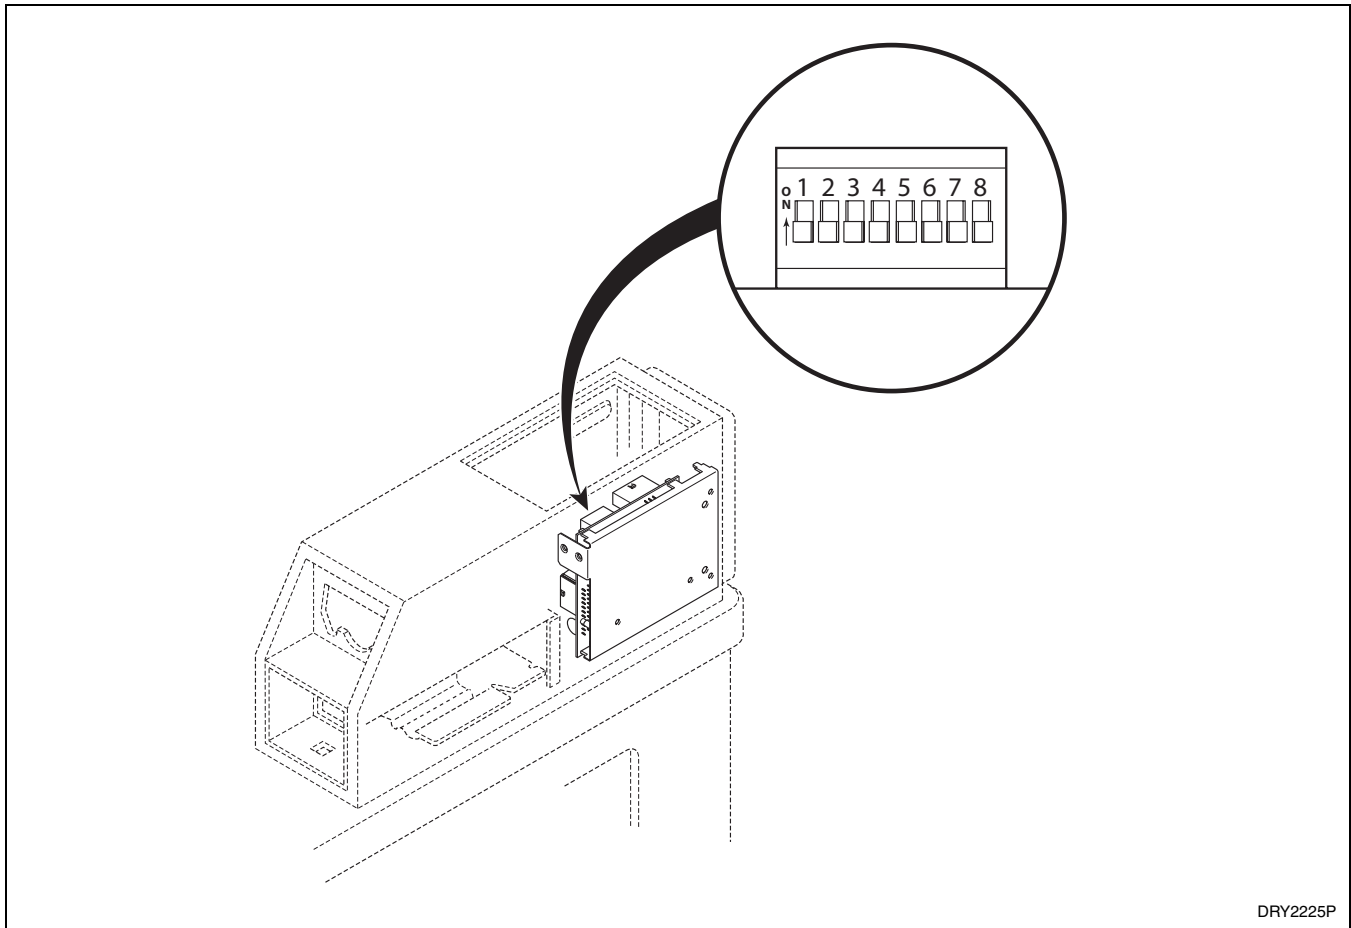

Figure 34
To change the dry time on the dryer, combinations of dipswitches can be set on the control. Refer to *Figure 34*.
2. Record the machine control dipswitch settings. Then set them all to the off position. Refer to *Figure 34*.